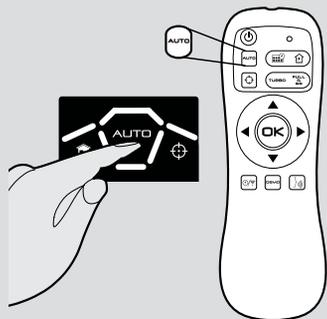

Fig.11
**You can activate the automatic cleaning mode by: [Fig.11]**